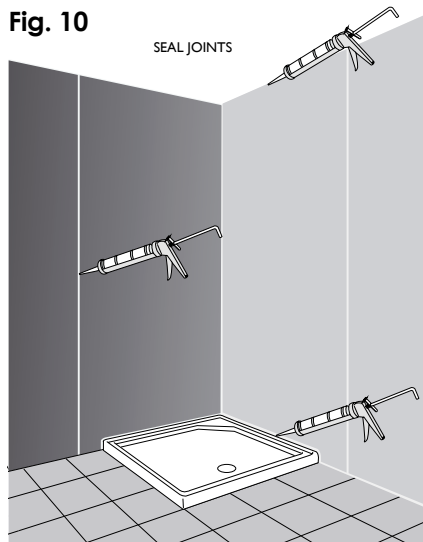

Fig. 11
- VERY IMPORTANT** For corner joints without a trim please see Fig. 11 for panel positioning